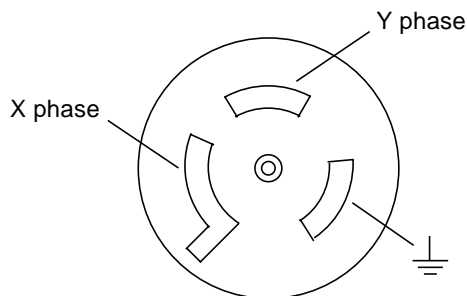

FIGURE 5-2 50A Marincó CS8269 Power Output Receptacle
2. **With a digital voltmeter (DVM), check that the PCU output voltage is 230 VAC, +/- 4 VAC. Measure the voltage at the 50A Marincó CS8269 power output receptacles built into the junction box (refer to FIGURE 3-1 on page 3-3). See FIGURE 5-2.**